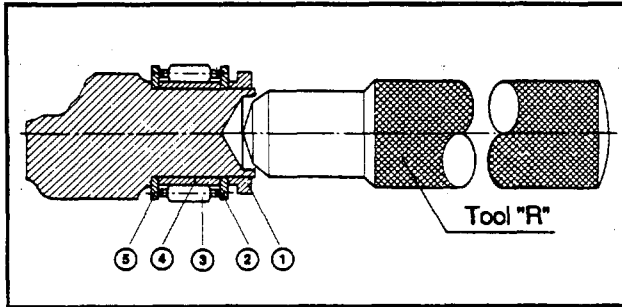

Fig.7.
- (e) Using tool "K" press on the inner ring of the tapered roller bearing (See Figure 7. Item 5).